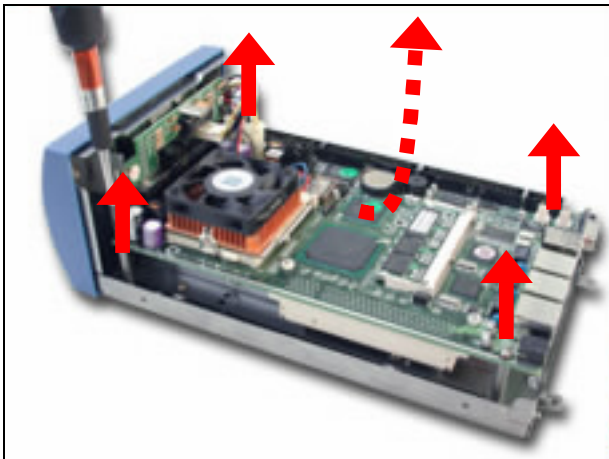

Fig. 2-24 Unscrew to loose PPAP-200
2. Take off the screws to unlock PPAP-200 (*Fig. 2-24*).